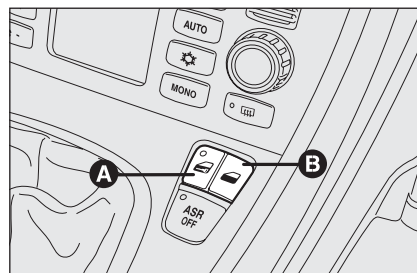

fig. 15
- button **A** and **B** for locking/unlocking the doors **fig. 15**;